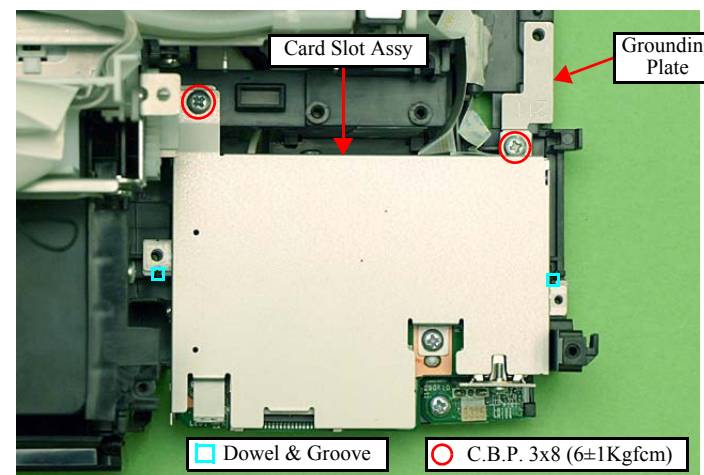

Figure 4-238. Removing the Card Slot Assy (1)
- Align the grooves (x2) of the Card Slot Assy with the dowels (x2) of the Base Frame. (See Fig. 4-238.)
- When attaching the Grounding Plate, install it over the Card Slot Assy, and tighten them together with the screw. (See Fig. 4-238.)